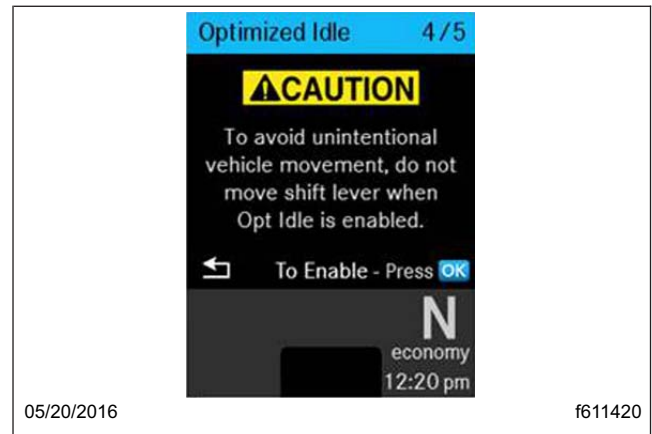

Fig. 11.2, Optimized Idle Start Screen
5. Navigate to the Optimized Idle screen on the driver display. See Fig. 11.2.